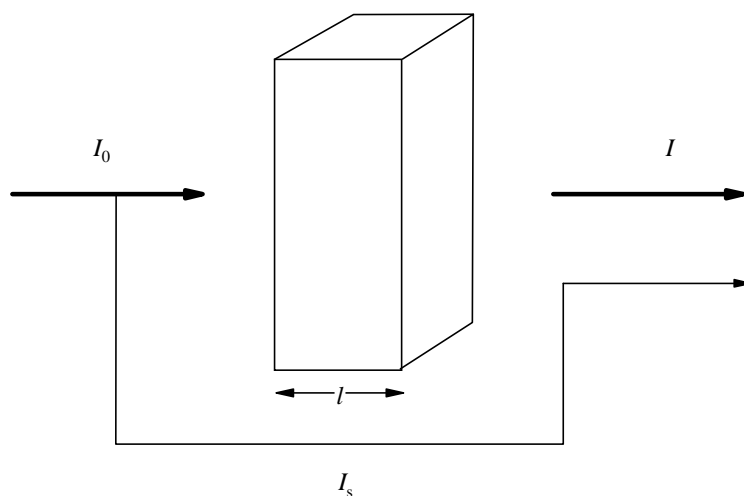

Figure 2
The absorption is measured with a single beam spectrophotometer. However 5 % of the light, the so-called stray light I_s , strikes the detector directly (see Figure 2).
2.3 $I_S = 0.05 \times I_0$ $A = \log \frac{I_0}{I + I_S}$ (see Figure 2)